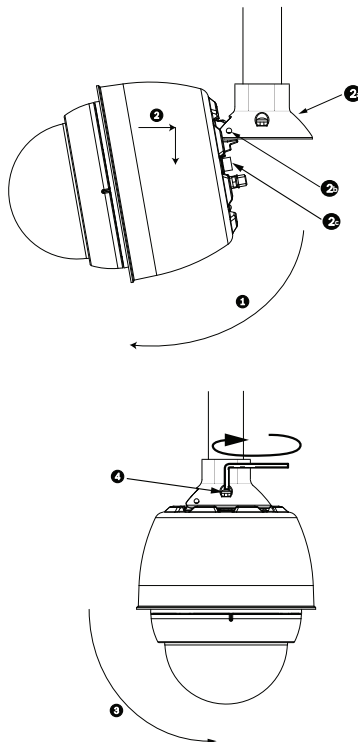

Figure 2.9 Pendant to Pipe Mount Attachment
7. Tighten the three (3) 10-mm (3/8-inch) stainless steel hex bolts on the bracket to lock the Parapet Arm in position. Refer to *Figure 2.9, Page 29*, for an illustration.